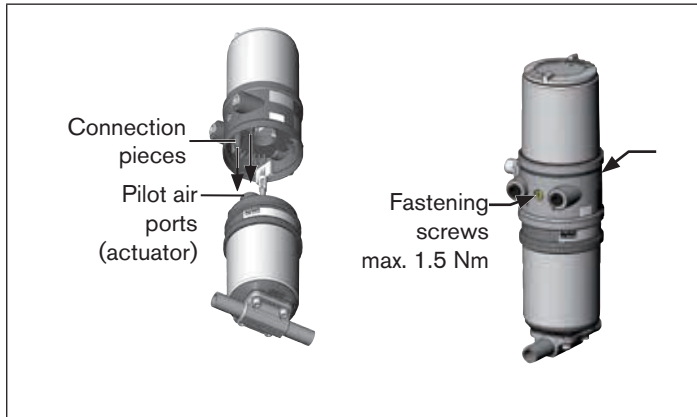

Fig. 7: Installation of control head, 21xx series
2. the connection pieces of the control head can be inserted into the pilot air ports of the actuator (see also "Fig. 7").